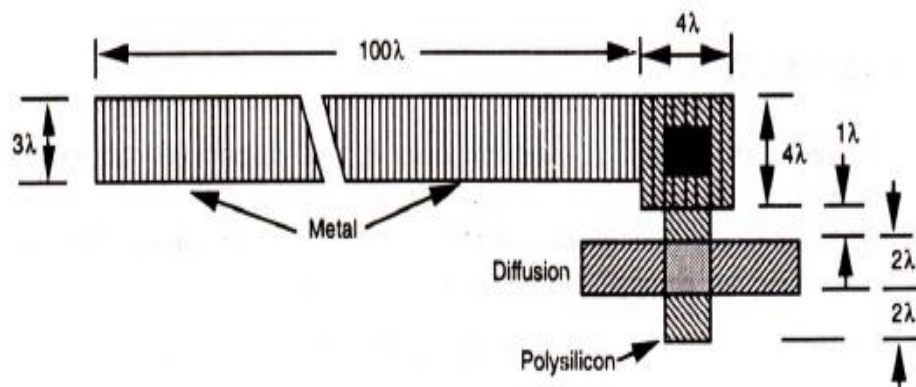

Figure 2B
- 2B. Calculate the effective capacitance for the given multi-layer structure in **Figure 2B** for $5\mu\text{m}$ process. Relative Capacitance value for metal1= 0.075, polysilicon=0.1 and Gate to channel = 1.0. (10+10)